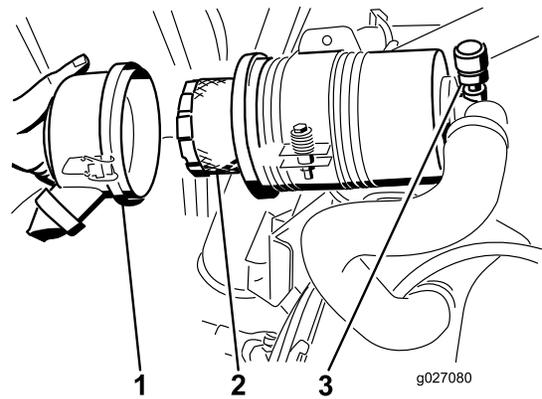

Figure 52
3. Remove and replace the filter (Figure 52).